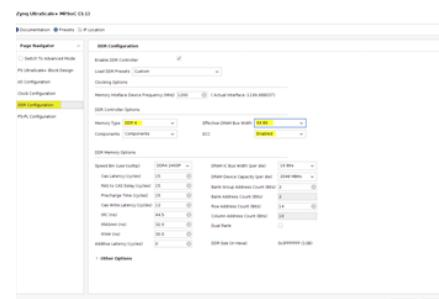

Figure 22: Zynq Re-customize IP Window (PCW)
- Double click on the Zynq block to open the Re-customize IP window (Figure 22). Within the Re-customize IP window select “DDR Configuration” in the Page Navigator. Select the appropriate DDR technology, Bus width, and ECC option. It is not necessary to select anything else for the IBIS model. In the example below the speed, bin has been updated to DDR4 2400P.